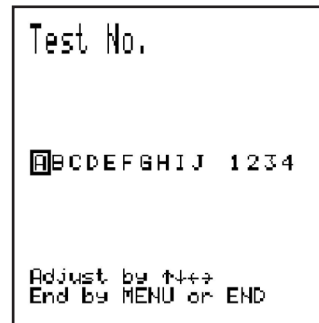

Fig 4.3 Menu "Test number"
- At the start of a measurement series, you can enter a label consisting of up to ten letters, space and/or symbols , ; , -_ including a four digit number, e.g. name of building, floor no. , element no. (see fig. 4.3).